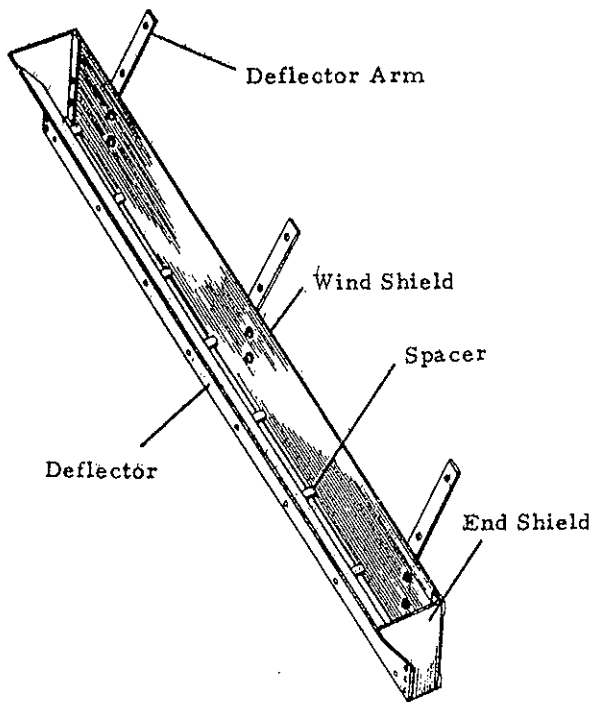

Figure 5. Seed Deflector
1. Crated with the box are a wind shield and a deflector. Two end shields are included in the bag assembly. Assemble the ends to the shields as shown in Fig. 5 using eight $1/4 \times 1/2$ in. round head capscrews, lockwashers and nuts.
3. Attach the three deflector arms to the wind shield as shown in Fig. 5 with six $3/8 \times 1$ in. round head capscrews, lockwashers and nuts.
4. Attach the deflector arms to the box (Fig. 5) with six $3/8 \times 1$ in. round head capscrews, lockwashers and nuts. **BE SURE TO REMOVE ANY PARTS WHICH MAY HAVE FALLEN INTO THE BOXES DURING ASSEMBLY.**